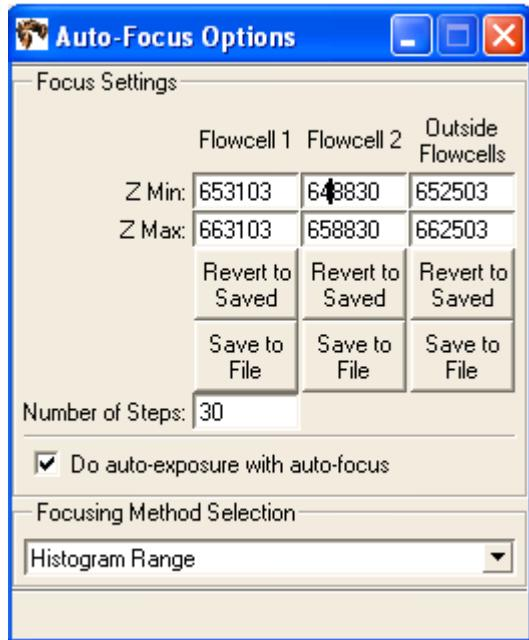

Figure 85 Enter auto-focus options.
- Ensure that **Do auto-exposure with auto-focus** is checked. Enter a value *5000 less than* the nominal Z distance for Z Min. Enter a value *5000 greater than* the nominal Z distance for Z Max. Enter **30** for the Number of Steps and choose **Histogram Range** from the drop-down menu in the Focusing Method Selection pane (see Figure 85 on page 111).